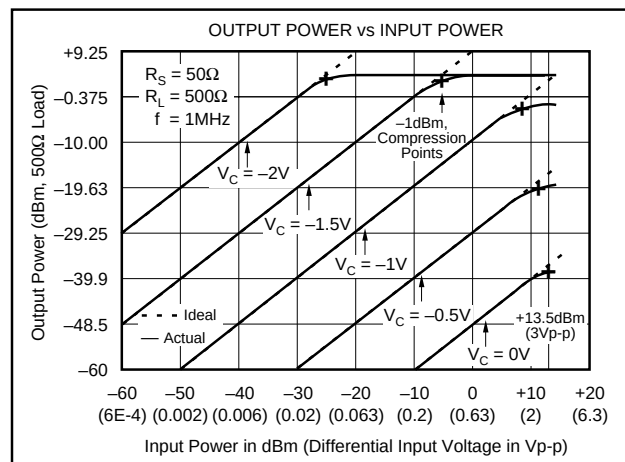

FIGURE 2. Input and Output Range.
NOTES: (1) See Input/Output Range discussion in the Applications Information section (Figure 2). (2) Gain is laser trimmed and tested at control voltages of 0V to -2V in 200mV steps;  $V_{IN} = 1Vp-p$  for  $V_C > -1V$  gains less than 0dB;  $V_{OUT} = 1V$  for  $V_C < -1V$ . (3) Output offset change from offset at  $V_C = 0V$ . (4) Gain = +40dB; Input step of 2V to 2mV; time required for output to return from saturation to linear operation. (5)  $V_{IN} = 7mVp-p$ ,  $V_{OUT} = 700mVp-p$  (250mVrms); Output Power = -10dBm/line, equal amplitude tones of 5MHz  $\pm 500Hz$ ,  $V_C = -2V$ . See Typical Performance Curves. (6) With  $R_S = 0\Omega$ , and noise bandwidth of 1MHz.  $IDR = 20 \log(V_{ORMS}/(e_{ORMS} \cdot \sqrt{BW}))$  where  $V_{ORMS}$  is rms output voltage,  $e_{ORMS}$  is output noise spectral density, and BW is noise bandwidth.
The VCA610's 77dB gain range allows the user to handle an exceptionally wide range of input signal levels. If the unit's input and output voltage range specifications are exceeded, however, signal distortion and amplifier overloading will occur. The VCA610's maximum input and output voltage range is best illustrated in Figure 2.
Figure 2 plots output power versus input power for five voltage gains spaced at 19.25dB intervals. The 1dBm compression points occur where the actual output power (solid lines) deviates by  $-1dBm$  from the ideal output power (dashed lines). Compression is produced by different mechanisms depending on the selected gain. For example, at  $G = -38.5dB$  ( $V_C = 0$ ), 1dBm compression occurs when the input signal approaches approximately 3Vp-p (13.5dBm for  $R_S = 50\Omega$ ). Input overloading is the compression mechanism for all gains from  $-38.5dB$  to about  $-5dB$ . For gains between  $-5dB$  and  $+5dB$ , the compression is due to internal gain stage overloading. Compression above a gain of  $+5dB$  occurs when the output signal becomes distorted as internal gain stages become overdriven. At  $G = 0dB$ , 1dBm compression occurs when the input exceeds approximately 1.5Vp-p (7.5dBm). At gains greater than about 5dB, the compression mechanism is due to output stage overloading.
As shown in Figure 2, the onset of overload occurs whenever the actual output begins to deviate from the ideal expected output. If possible, the user should operate the VCA610 within the linear regions shown in order to minimize signal distortion and overload delay time. However, instances of amplifier overload are actually quite common in Automatic Gain Control (AGC) circuits which involve the application of variable gain to signals of varying levels. The VCA610's design incorporates circuitry which allows it to recover from most overload conditions in  $200\text{ns}$  or less. Overload recovery time is defined as the time required for the output to return from overload to linear operation following the removal of either an input or gain-control overdrive signal.